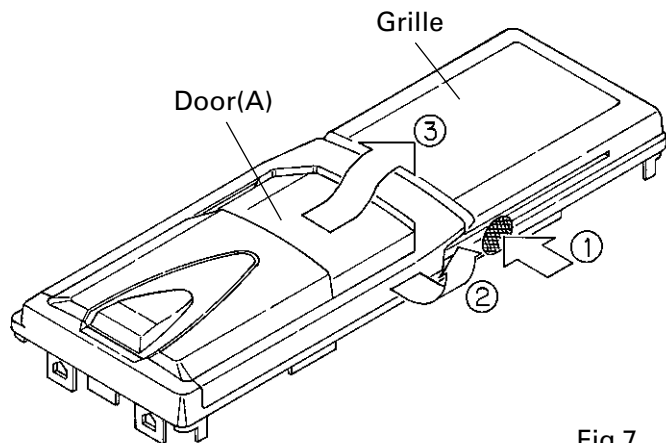

Fig.7
1. Remove the Door(A) in the direction of arrow ② while pushing the Grille in the direction of arrow ①, the slide is done as it is in the direction of arrow ③ and remove the Door(A). (Fig.7)